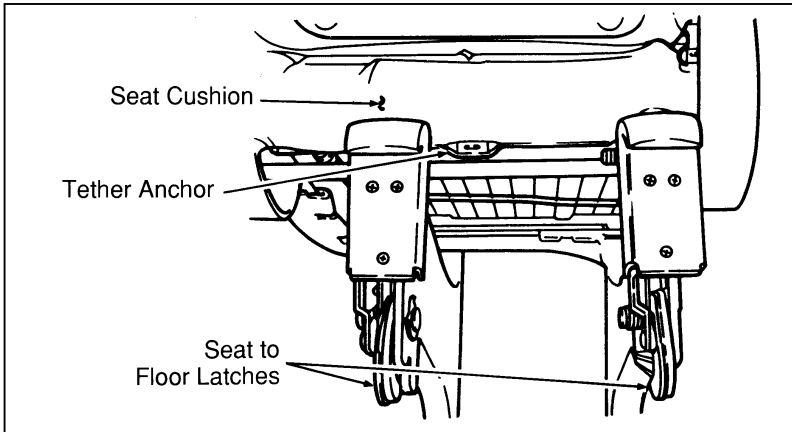

Figure 4: Tether anchor location — second row bucket seat
- **SECOND ROW BUCKET (if equipped) SEATING POSITION** — You must use the tether strap anchor location provided on the back of the seat cushion. (Refer to Figure 4.)